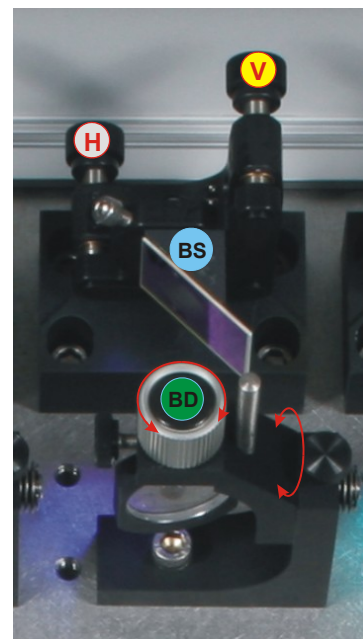

Fig. 2.5: Beam adjustment of one laser. The Beam displacer shifts the beam while the Beam Splitter adjusts its angle.
12. Adjust the Beam Displacer **BD** of the respective laser by turning and tilting for optimal count rate (Fig. 2.5). **Be careful not to incline the beam displacer too strong since a reflection of the laser could reach your eye.**